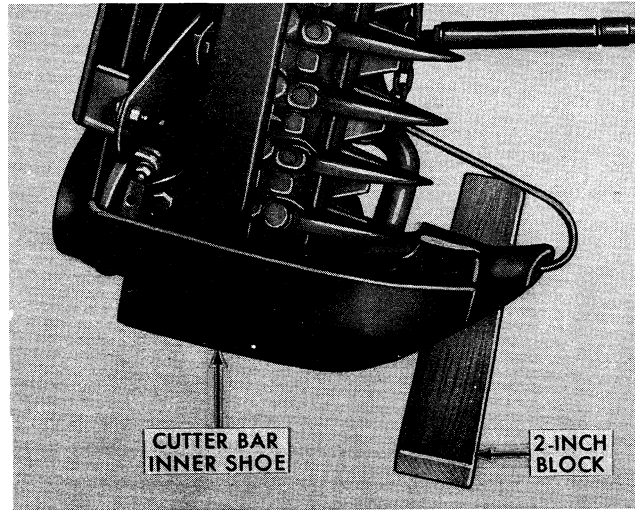

Figure 4
3. Position a 2" block under the forward end of the cutter bar inner shoe as shown in Figure 4.